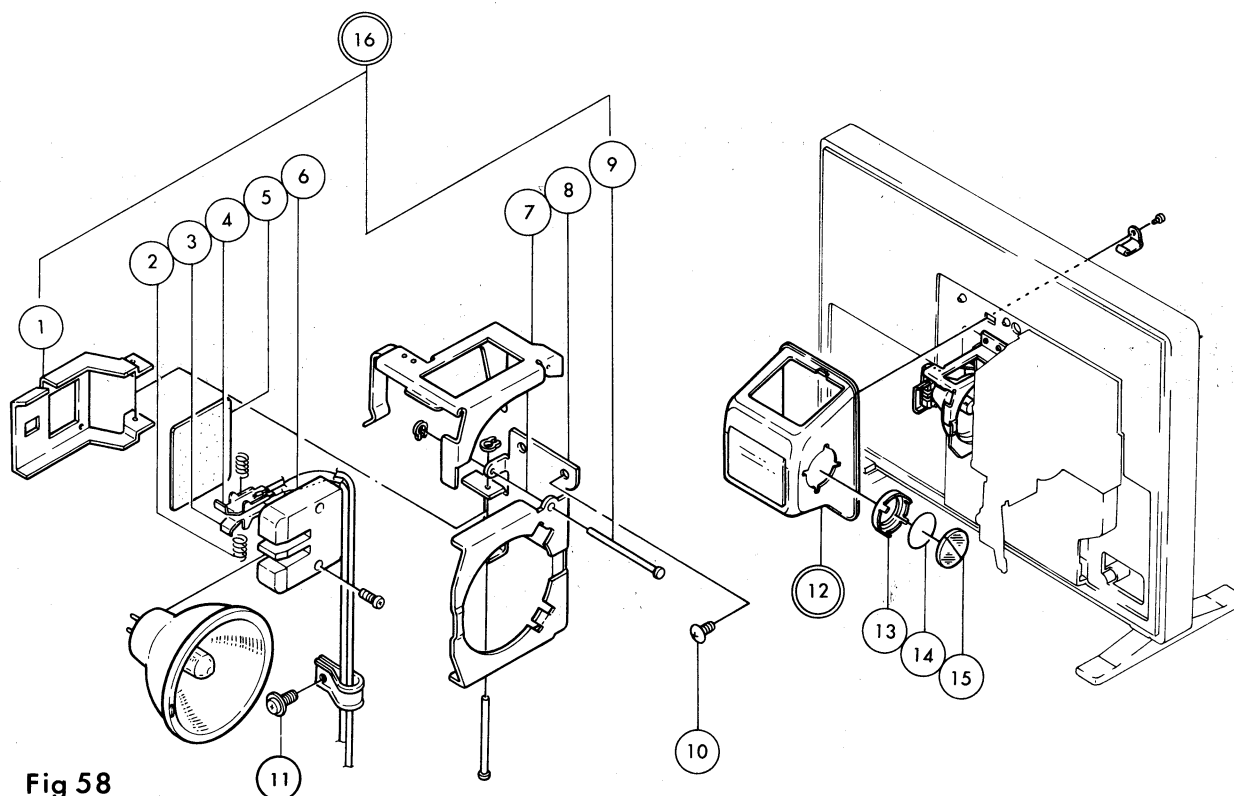

Fig 58
Disassemble and reassemble the parts, referring to Fig.58.
- ☐ Defective (2)(3)(4); Lamp lighting is unsteady.
- ☐ Defective (7)(8); Lamp replacement work is difficult.
1. Disassemble and reassemble the parts, referring to Fig.58.
2. Adjust the position of ((16)) by (10)x2 to obtain the brightest picture without unevenness.